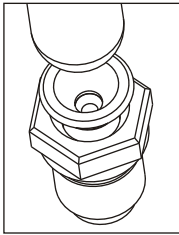

Figure 3: Air Gun Nozzle for Filling Air in the Air Valve.
6. To Grip the Core, inflate the Chuck. Press the Air Valve (NRV) by Air gun nozzle, shown in Figure 3. The press the Air Gun lever to the extent that the 5- 6 Bar Air Pressure is developed in the bladder.